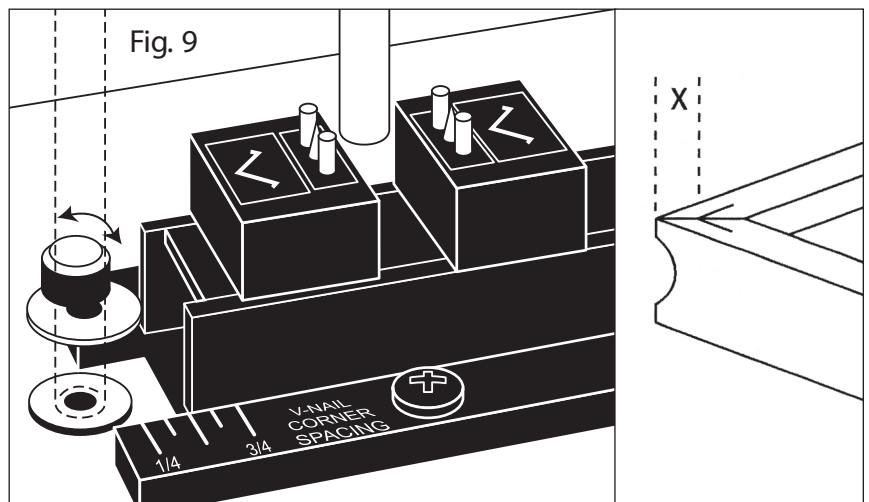

Fig. 9
- This stop changes the distance the top V-nail is located from the end of the joint (Dimension X) (Fig. 9).